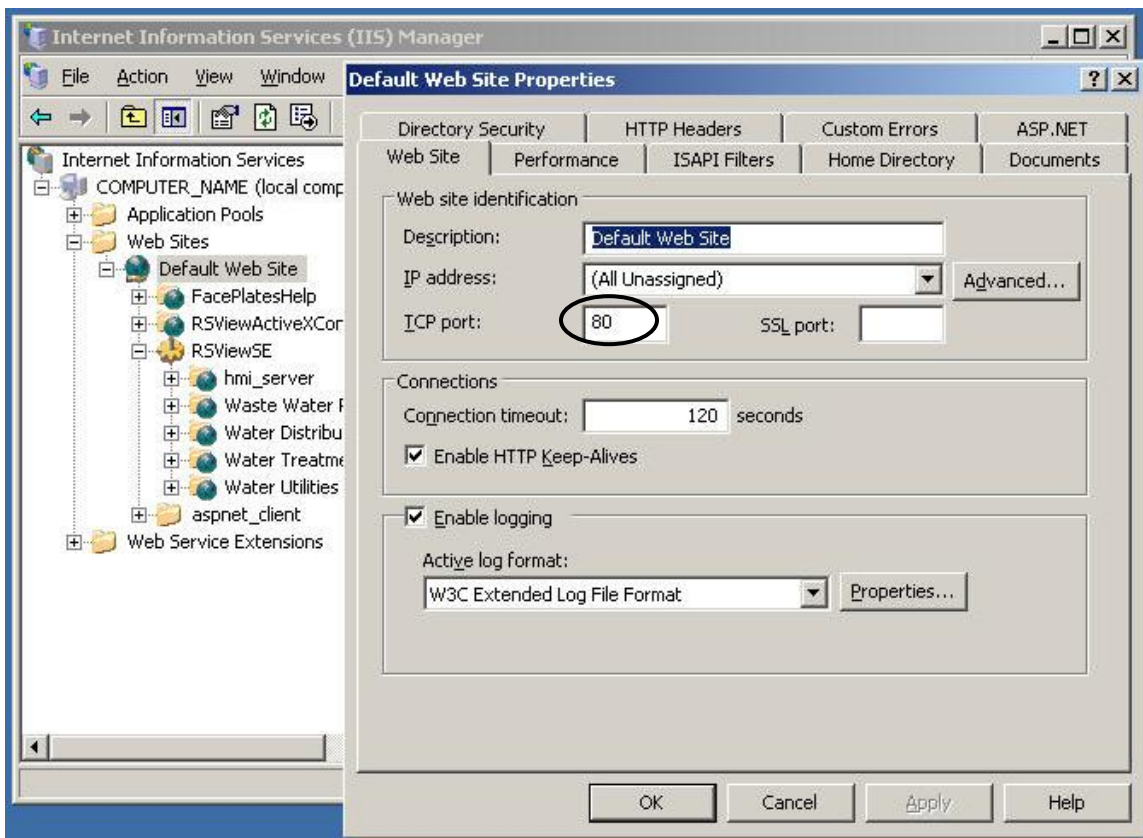

Figure 7 - Port Settings Dialog for Windows Server 2000 or 2003. Note the same approach is used for Windows XP as well.
- A. **If using Windows Server 2000 or Windows Server 2003** – Port settings are found from the properties of the “Default Web Site”. Right click on the default web server icon and select “Properties...” from the context menu. You will see a dialog box as shown in Figure 7 below.